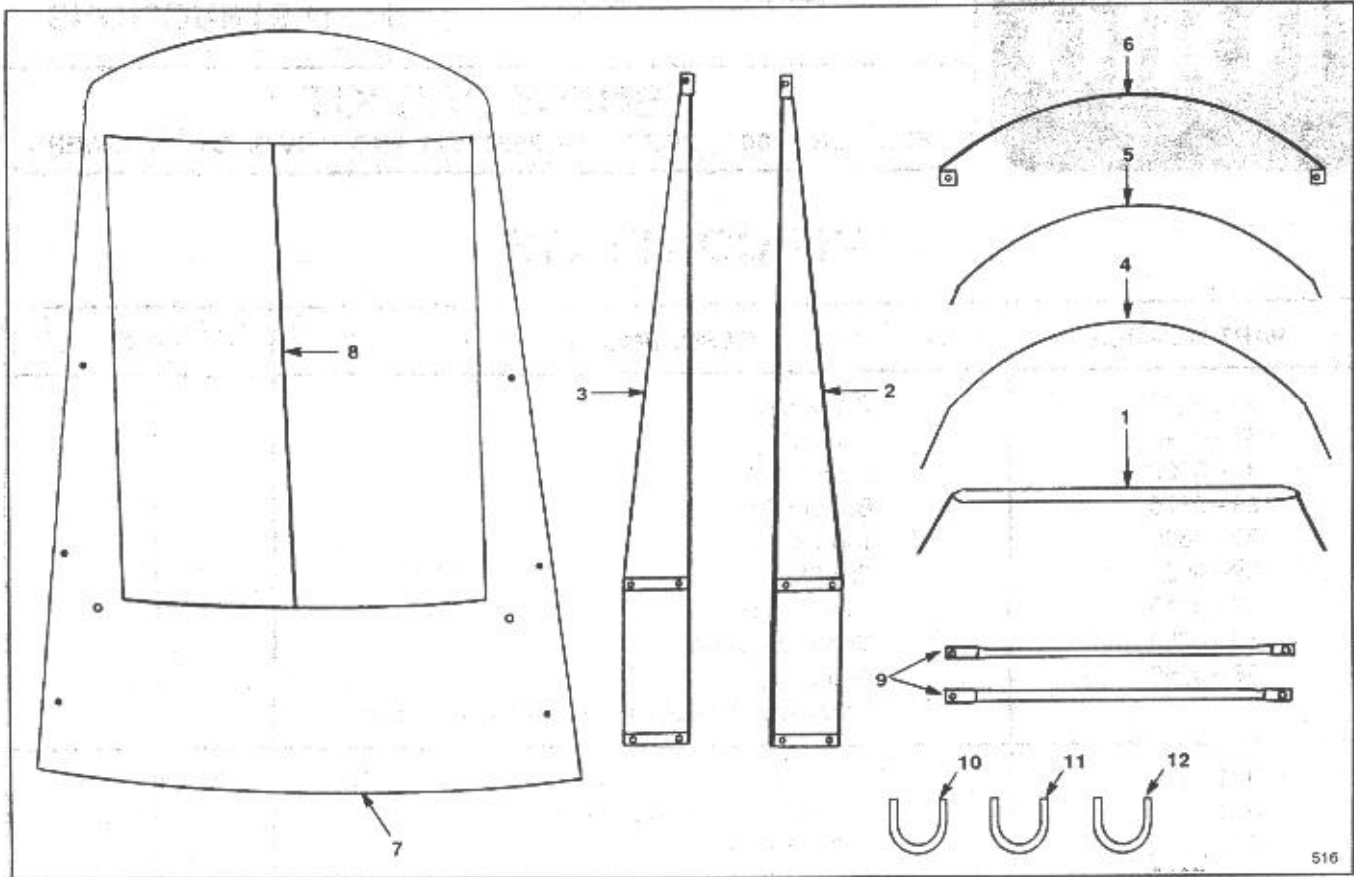

Figure 1
1. Identify all of the steel parts using Figure 1 for reference.